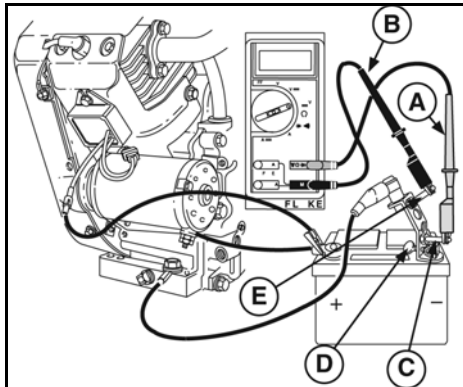

Figure 32
2. Install DC Shunt #19359 (D, Figure 32) on negative (-) battery terminal.
3. Insert RED test lead (A) into V  $\Omega$  receptacle in meter and connect to red post terminal on shunt (E).
4. Insert BLACK test lead (B) into COM receptacle in meter and connect to black post on shunt (C).